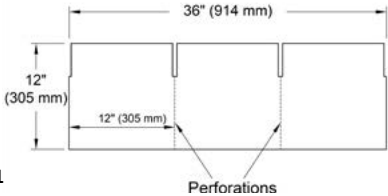

Figure 1
3. **Separate each piece of TimberTex® Ridge Cap Shingle...** into three individual Ridge Cap Shingle pieces at pre-scored perforations (see Figure 1).